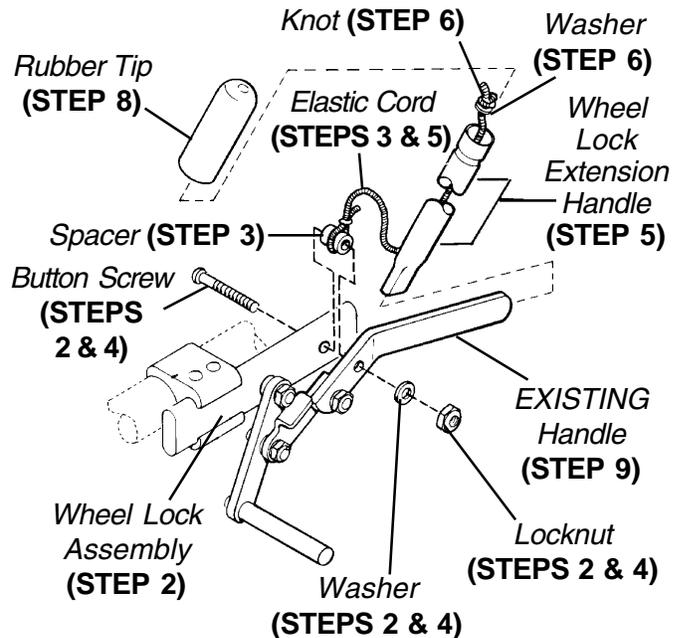

FIGURE 1 - INSTALLING THE WHEEL LOCK EXTENSION HANDLE
INSTALLING THE WHEEL LOCK EXTENSION HANDLE (FIGURE 1)
6. Run the cord through the washer and tie a knot above the washer as shown in **FIGURE 1**.